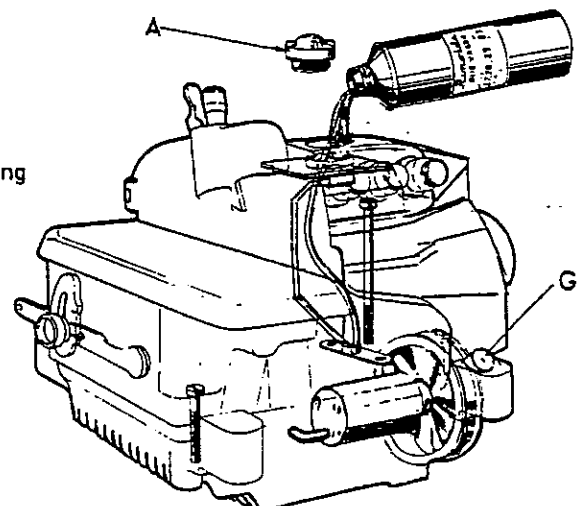

fig. 2
c) Filling lube oil sump (fig. 2)